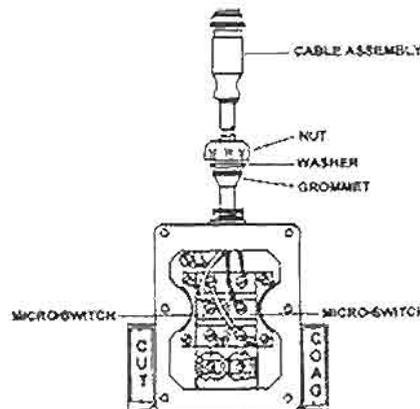

Figure 3-36. Cable assembly replacement.
(2) Cable assembly replacement (fig 3-36).